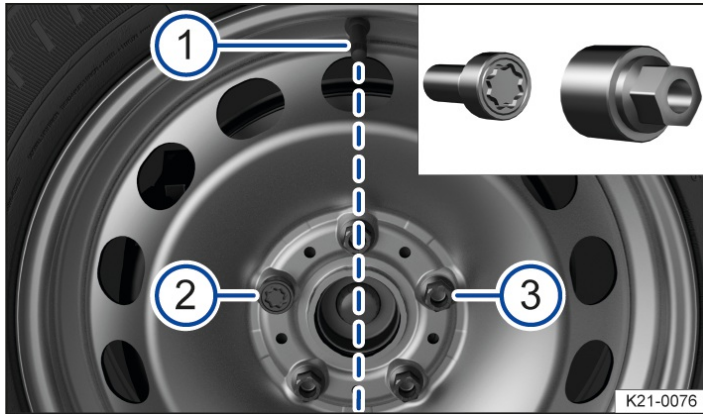

Fig. 2 Changing a wheel: tyre valve (1) and locations of the anti-theft wheel bolt (2) or (3).
On wheels with a wheel cover, the anti-theft wheel bolt must be screwed in at position → Fig. 2 \(2\) or \(3\) according to the position of the tyre valve (1). The wheel cover can otherwise not be fitted.